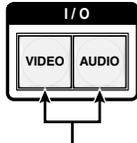

Figure 3-36 — Deselect I/O Group mode
7. Simultaneously press and release the RGBHV (CrossPoint switchers) or Video (MAV Plus switchers) button and Audio button (figure 3-36). The switcher exits *I/O Group mode*.